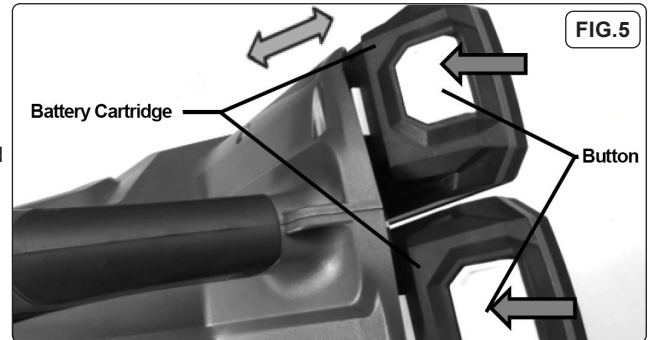

FIG.6
6.2. BATTERY CAPACITY (FIG.6)
6.7. TO LOCK ON (FIG.6)
6.8. TO DISENGAGE THE LOCK (FIG.6)